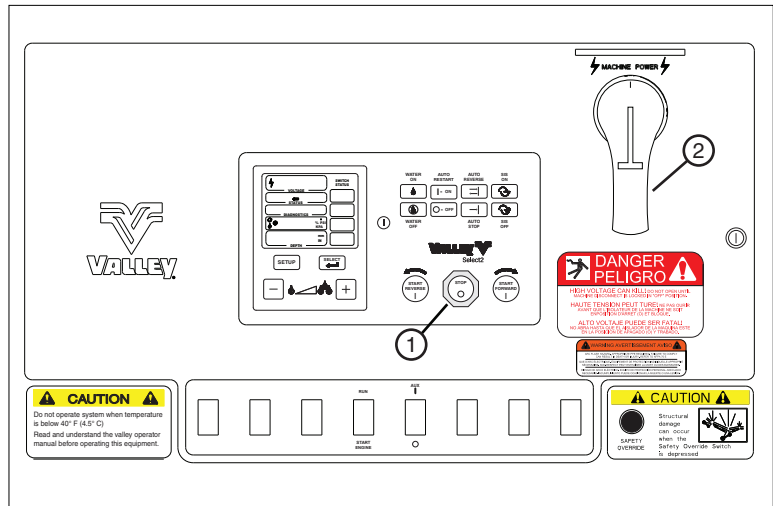

Figure 41-2 1. Stop button.
1. Press the STOP button. See figure 41-2.
2. Turn the main disconnect switch to the OFF position. See figure 41-2.